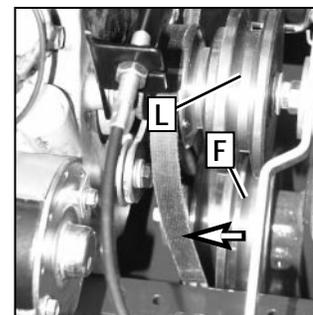
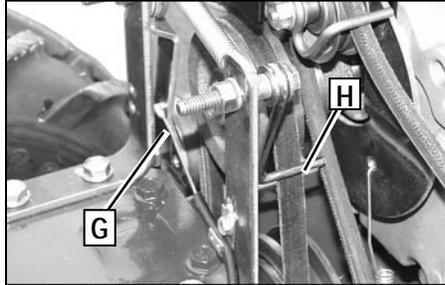

Figure 5-17: Left-side view.
Figure 5-19: Correct forward clutch cable position.
5. Slip the belt off the front of the transmission pulley (F, Figure 5-17).
- Insert the bottom half of belt into the smaller, rear-most groove of the transmission pulley (F, Figure 5-17). Now slip the top half of belt under the belt guide (H, Figure 5-19) and onto the large groove of engine drive pulley (L, Figure 5-17).
IMPORTANT: Belt must be installed on the inside of the belt guide (G, Figure 5-19).